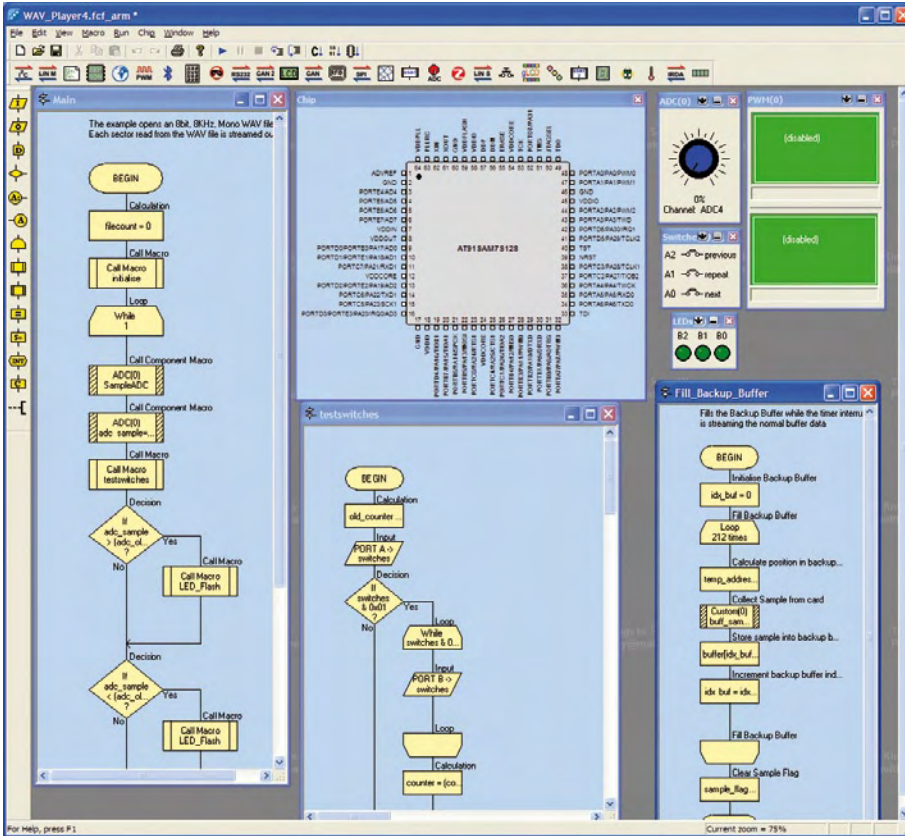

Figure 2. Flowcode for ARM in action.
1. Flowcode for ARM. Flowcode (**Figure 2**) takes much of the pain away of using the AT91 ARM family of microcontrollers – it has been developed to allow users to easily port designs from 8 bit to 32 bits with a system of ports (A to E) that mirrors those found on smaller micros. This includes full software for handling floating point numbers and a full mathematics library, and it is compatible with programs from Flowcode for AVR and Flowcode for PIC so porting your programs to this new platform should be easy.